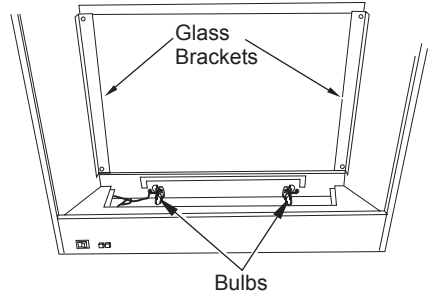

Figure 7 - Ember Bed Bulb Location
4. Remove screws from left and right brackets that hold glass in place (see Figure 7).